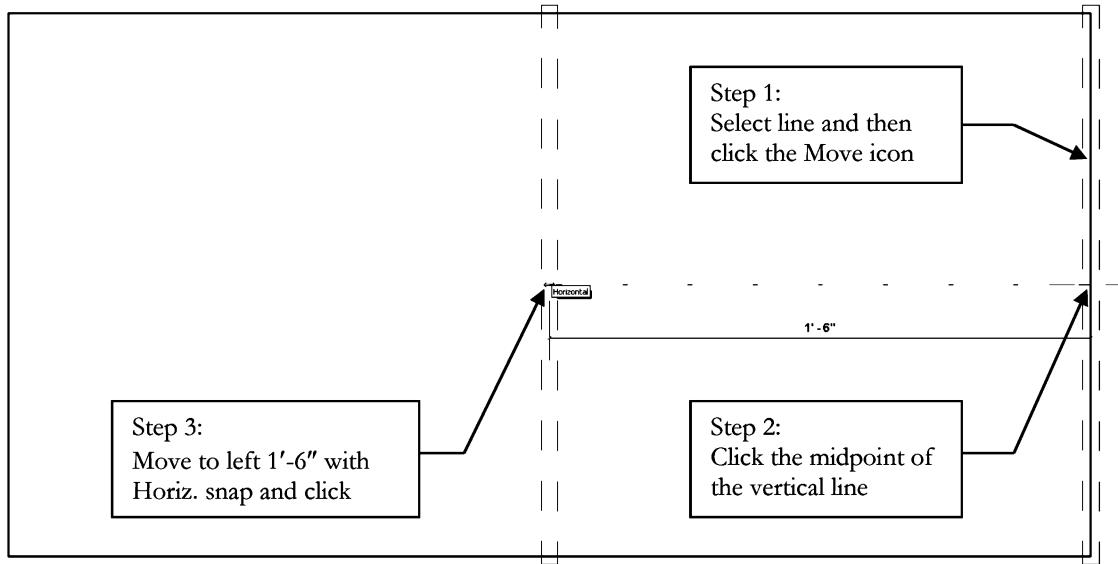

FIGURE 4-1.6 Move tool used to stretch a rectangle
16. Pick the midpoint of the vertical line, then move the mouse 1'-6" to the left and click again (Figure 4-1.6).